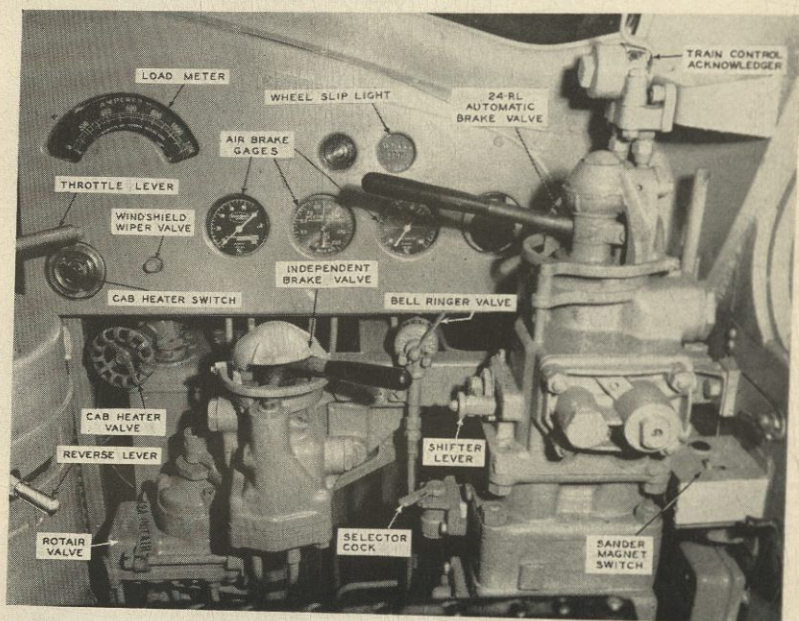

Fig. 15
22. Figure 15 shows the engineer's controls in the cab of one make of Diesel locomotive. No explanation of the various controls and indicators is given here. Their purposes are a part of the explanation of the operation of the power plant and the locomotive which is given in following texts.